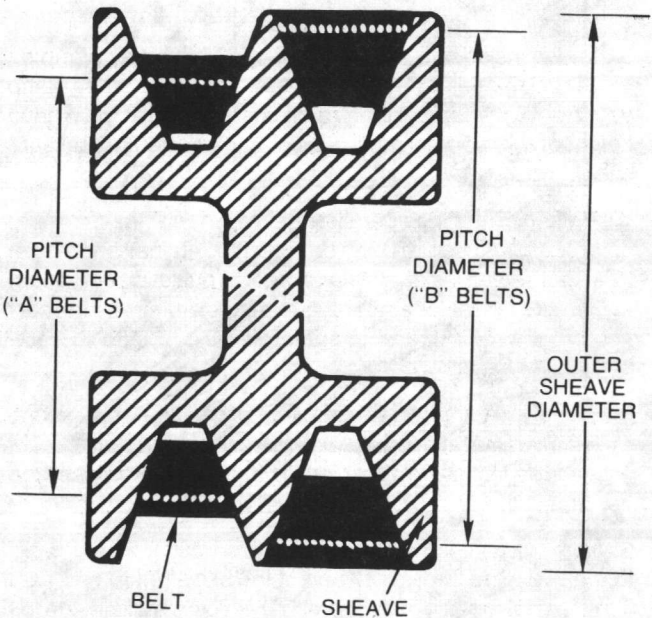

Figure 54 - Fan Sheave Pitch Diameter
3. Fan sheave pitch diameter (Figure 54 - found by measuring where the middle of the belt rides in the sheave).